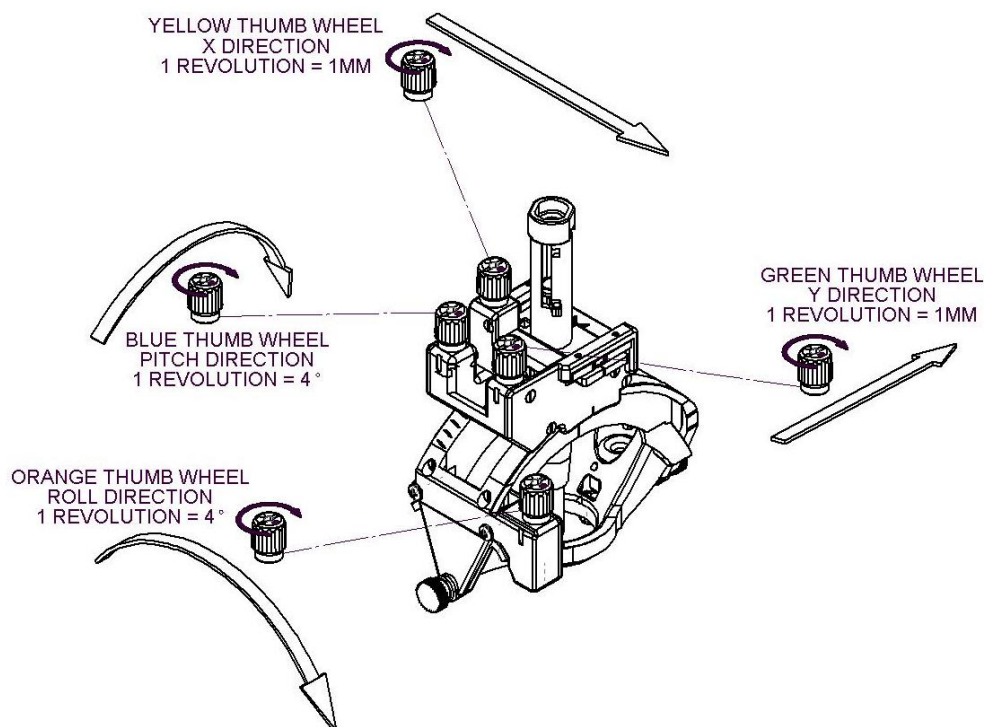

Figure 12: Tower Movements
3. The thumb wheels are color coded: Pitch is Blue, Roll is Orange, X is Yellow, and Y is Green. **See Figure 12.**
5. Insert the Stylet into the Peel-Away Sheath until the end protrudes approximately one (1) to five (5) millimeters. A slight resistance should be felt.
9. The thumb wheels are color coded: Pitch is Blue, Roll is Orange, X is Yellow, and Y is Green. **See Figure 12.**